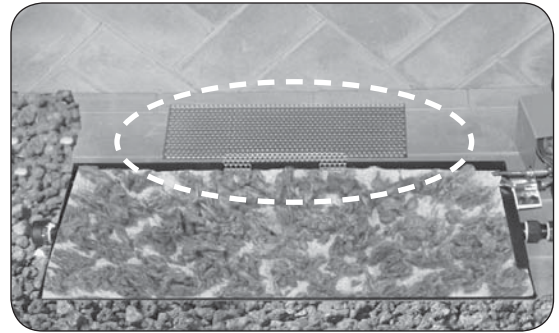

Fig. 22-1 Attach screen (if applicable)
1. Attach the ember screen to the burner by slipping it onto the back edge (center left to right) with the perforated section facing towards the back fireplace wall (Fig. 22-1).